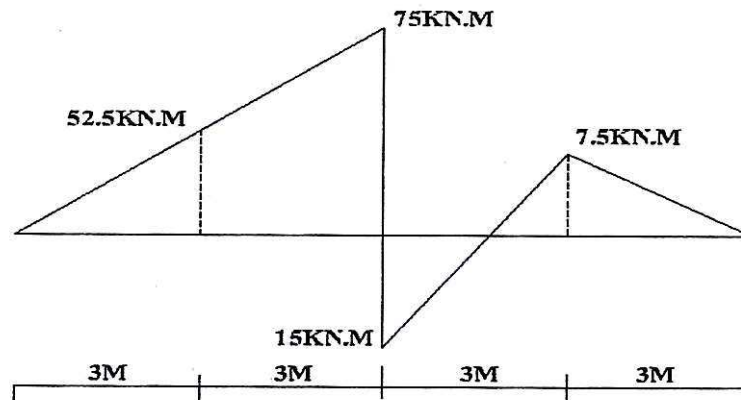

Fig. 6
- (b) The bending moment diagram of beam for span 12 m as shown in Fig. 6. Construct shear force diagram and load diagram. [7]